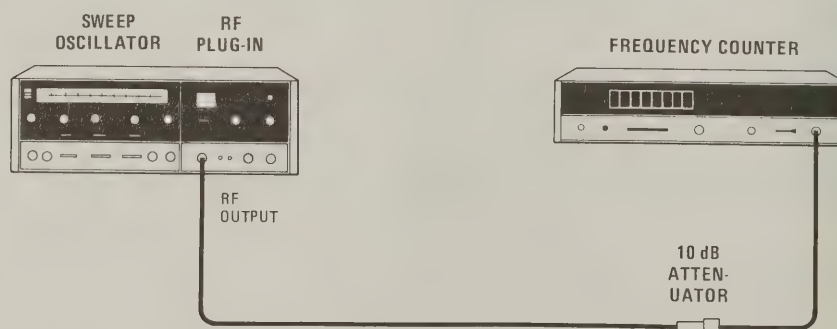

Figure 4-1. CW Vernier Test Setup
- a. Connect equipment as shown in Figure 4-1.